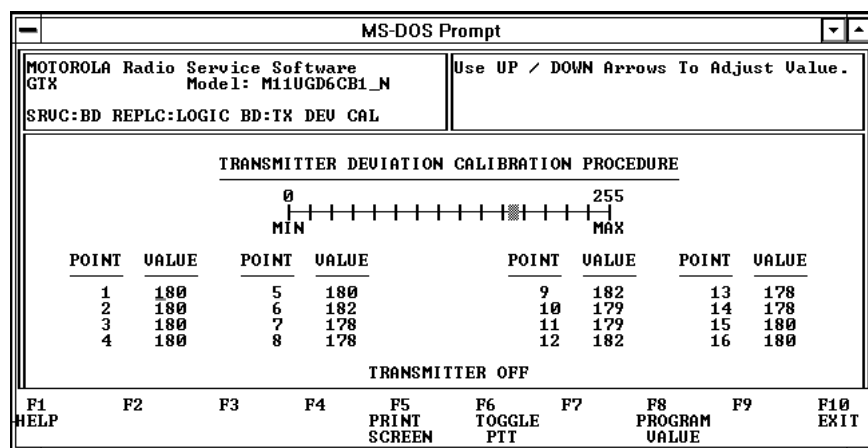

Figure 11.12 – Transmit Deviation Calibration
2. Press F10, "Exit", to terminate the balancing adjustments and enter the deviation calibration procedure. The deviation calibration screen is shown in Figure 11.12.